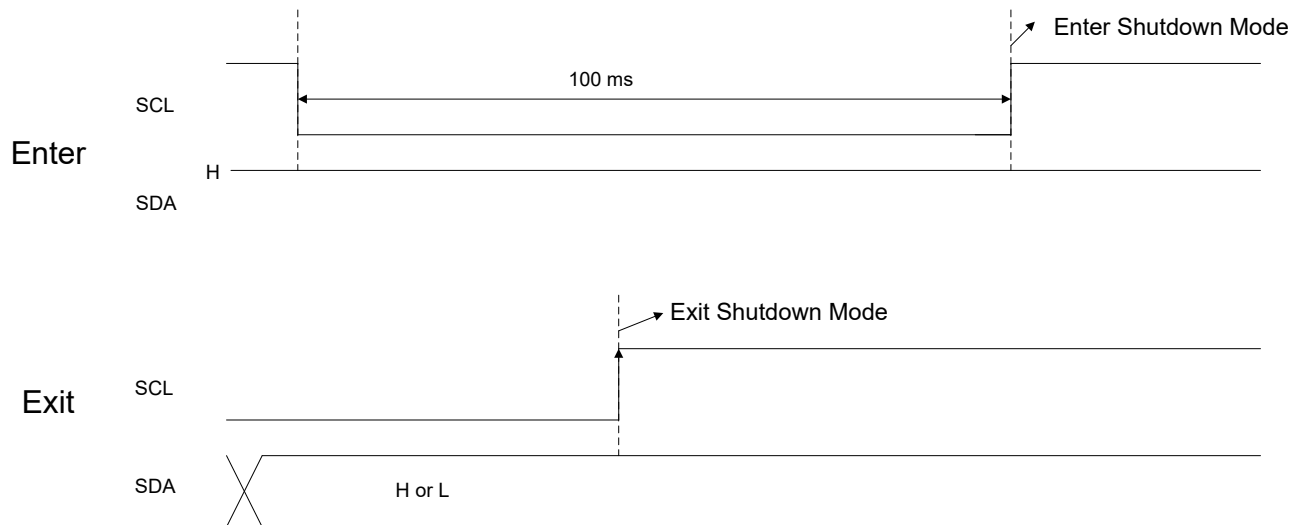

Figure 7-6. Enter and Exit Shutdown Mode Method Pair 2
- Figure 7-6 shows the method 2